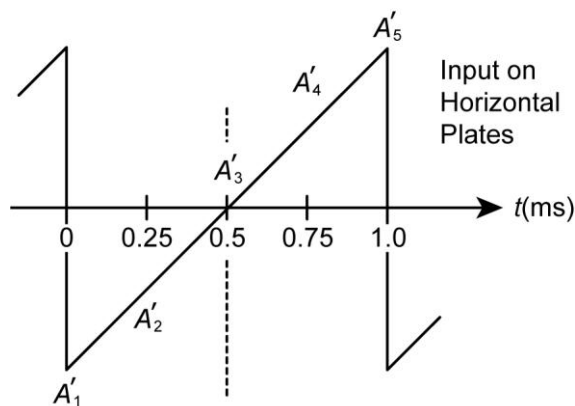

Fig. 15.13: Saw-tooth waveform for 1 kHz signal.
3. The saw-tooth waveform given to horizontal deflection plates is shown in Fig. 15.13.